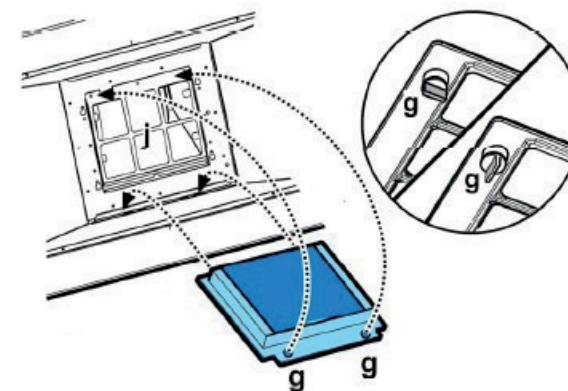

Figure 9
2. Remove the filter unit from its housing by turning the fixing screws (g) 90°, then release it (Fig. 9).